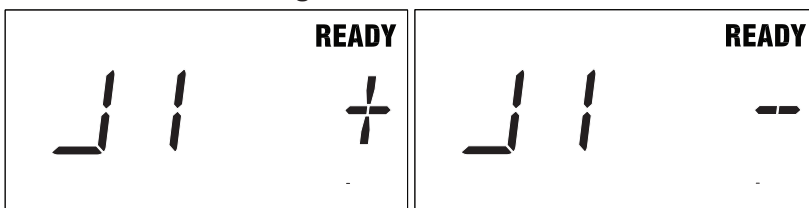

Figure 5
- Press **SET** button again to see the first Jumper setting. See *Figure 5*
- Set each jumper according to *Figure 4*. To change a jumper setting from + to - use the \uparrow TEMP button or the \downarrow TEMP button. See *Figure 5*